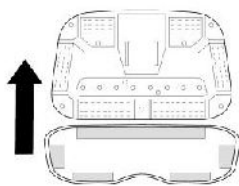

Fig. 11
4. Align the tapes on the underside of the clean pad with pads on the underside of the floor head and press together (fig.11).